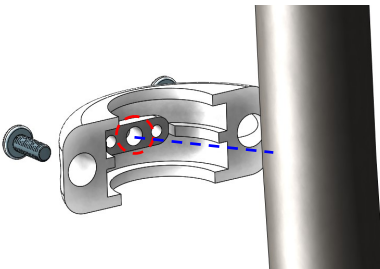

Figure: 14A
2. On the smaller portion of the handle there is larger center hole. This hole is used for positioning the handle to the post. Ensure the head of the positioning screw (which is located half way up the post) is inserted into this hole. Refer to Figure 14A & B.